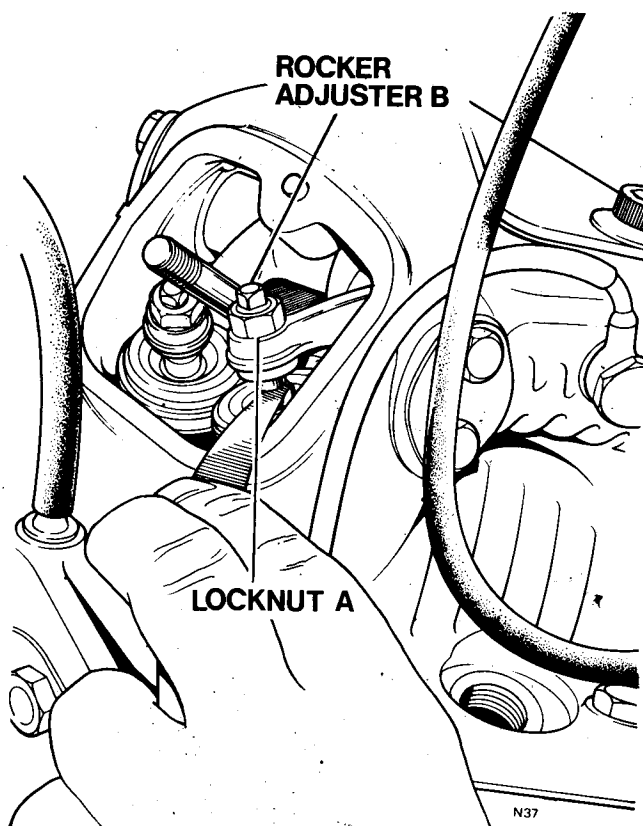

Fig. C9 Checking valve clearances
- 4 Using the correct feeler gauge (see table above for thickness) check the rocker clearance of the right side inlet valve. Fig. C9 shows the point where the feeler gauge is inserted.
- 5 If the clearance is correct i.e. the feeler gauge *just* nips, proceed to check the next valve as in (7). If gauge will not enter or if it does not nip, adjust as in (6).
- 6 Referring to Fig. C9, slacken the adjuster locknut (A) and screw out the adjuster (B) two turns. Place the feeler gauge between the adjuster and end of the valve stem and screw the adjuster in until it *just* nips the feeler gauge. Tighten the locknut and withdraw the gauge which should not be gripped tightly but should slide relatively easily from the gap. This clearance is now correct.